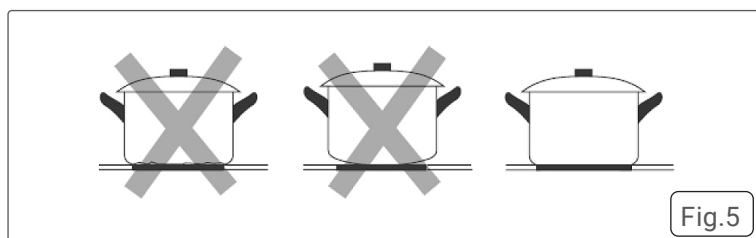
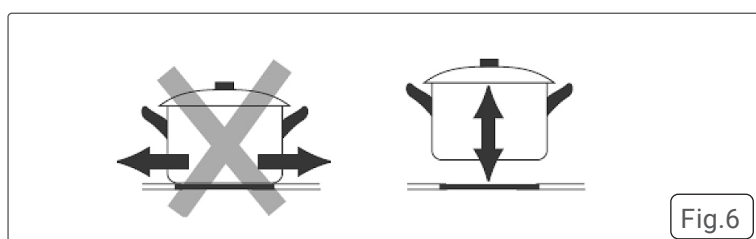

Fig.5
Fig.6
- DO NOT** use cookware with jagged edges or a curved base. Ensure that the base of the pan is smooth, sits flat against the glass surface, and is the correct size for the cooking zone. Always centre your pan on the cooking zone. See fig.5. When moving pans, always lift them, **DO NOT** slide, to avoid scratching the glass. See fig.6.
• TO START COOKING (See fig.6)
1. Power On: Touch the **ON/OFF** ① switch. All the indicators will show "—".